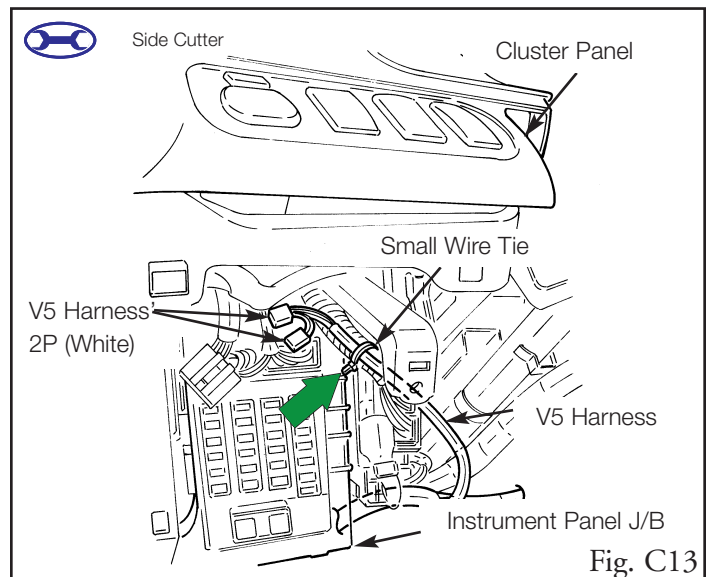

Fig. C13
16. Route the V5 harness up toward the cluster panel area, then secure it to the vehicle's harness with one small wire tie. (Fig. C13)